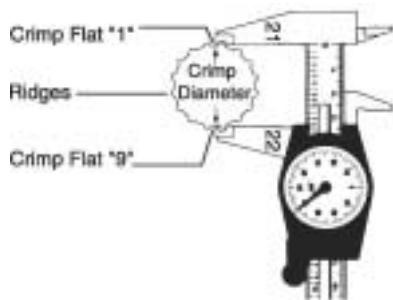

Fig. 1
1. Using Gates "21/22" dial calipers (Product No. 7369-1320, Part No. 78217) measure halfway between the ridges (Fig. 1). To be sure crimp diameter is being properly measured, mark a crimp flat. Beginning with that flat, count 9 flats to get the diameter. Be sure caliper blades DO NOT touch ridges.